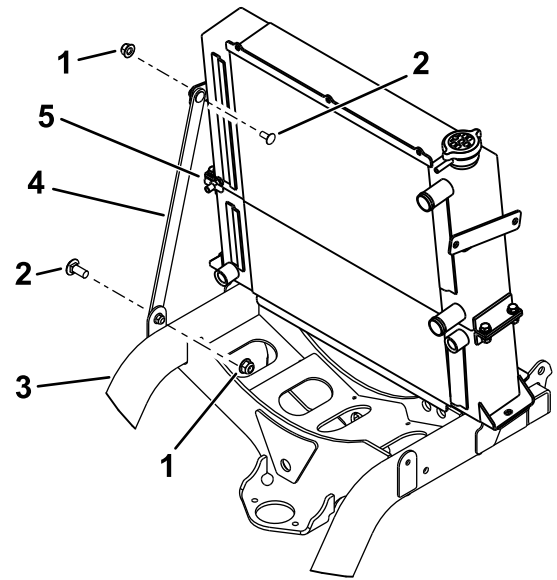

Figure 23
8. Drain half of the engine coolant from the radiator by using the valve on the right side of the radiator as shown in Figure 23.
7. Remove the existing bracket from the machine frame and radiator (Figure 23). Save the hardware.
2. Install the tank and bracket to the frame and radiator with the previously removed hardware (Figure 21 or Figure 23).